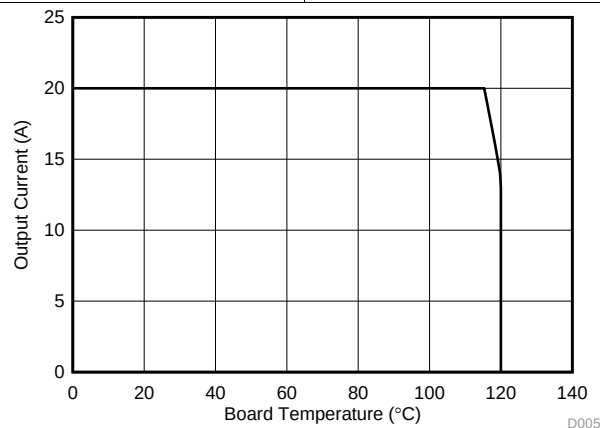

Figure 3. Typical Safe Operating Area (SOA) ⁽¹⁾
The SOA curve in the CSD86336Q3D data sheet provides guidance on the temperature boundaries within an operating system by incorporating the thermal resistance and system power loss. 図 3 outlines the temperature conditions required for a given load current. The area under the curve dictates the safe operating area. All the curves are based on measurements made on a PCB design with dimensions of 4 in (W) × 3.5 in (L) × 0.062 in (T) and 6 copper layers of 1-oz copper thickness.